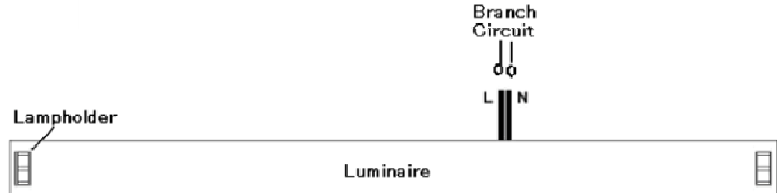

Figure 2
- STEP 3:** Disconnect luminaire supply wirings L and N to branch circuit as shown in Figure 2.